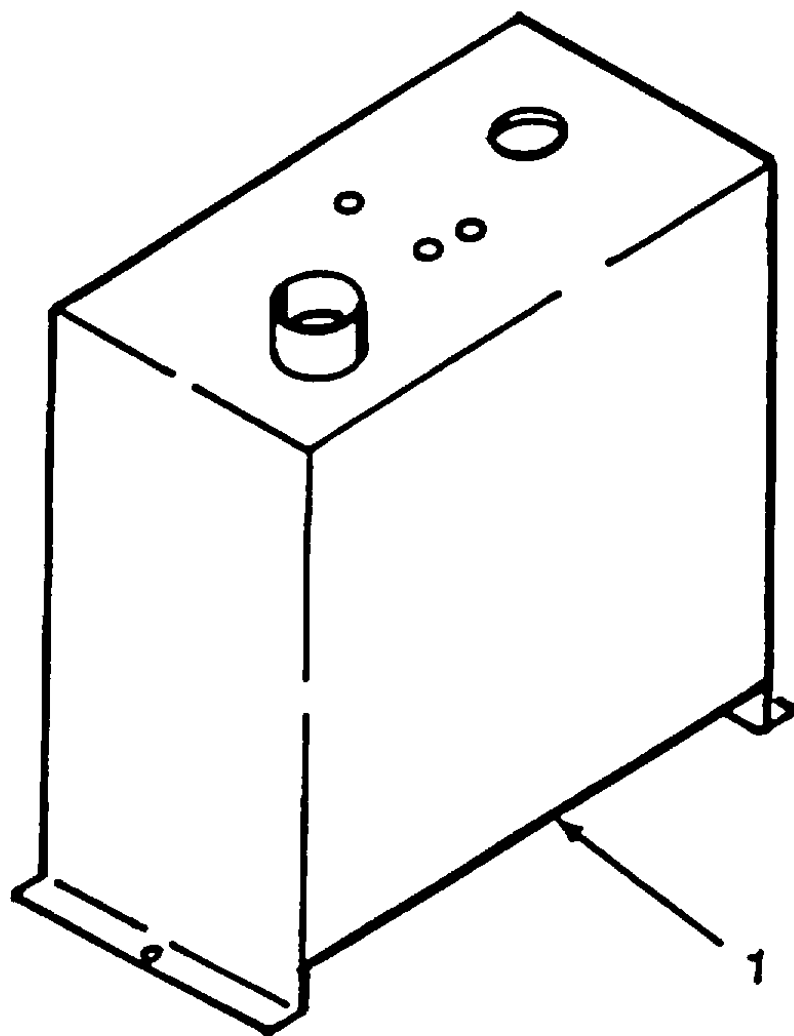

Figure 5-4. Fuel Tank
- a. Repair. (Refer to Figure 5-4).
- (1) Thoroughly flush out fuel tank (1) with dry-cleaning solvent. Observe all warnings listed above.
- (2) Inspect fuel tank (1) for cracks or broken weldments, dents or distortion. Repair as required.
- (3) Clean off corrosion with wire brush, then repaint in accordance with TM 43-0139.
- (4) Fix dents as needed. (Reference FM 43-2).
- (5) Weld cracks as needed. (Reference TM 9-237).